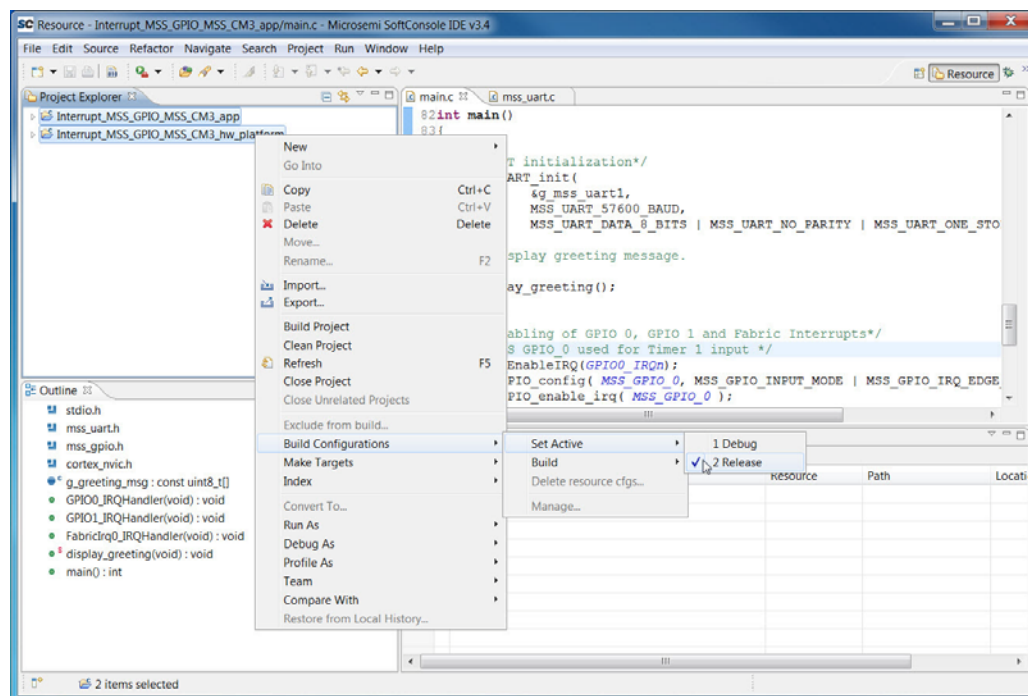

Figure 6-15 • Configuring Release Mode
1. Right-click on both project names in the Project Explorer view and choose **Build Configurations > Set Active > Release**, as shown in Figure 6-15.